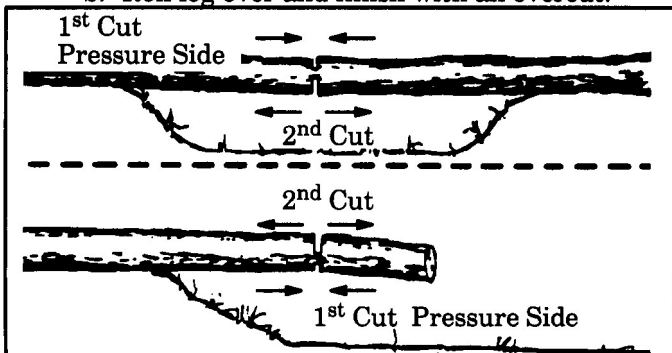

Figure 21
- Give special attention to logs under strain to prevent the saw from pinching.** Make the first cut on the pressure side to relieve the stress on the log. Figure 21.